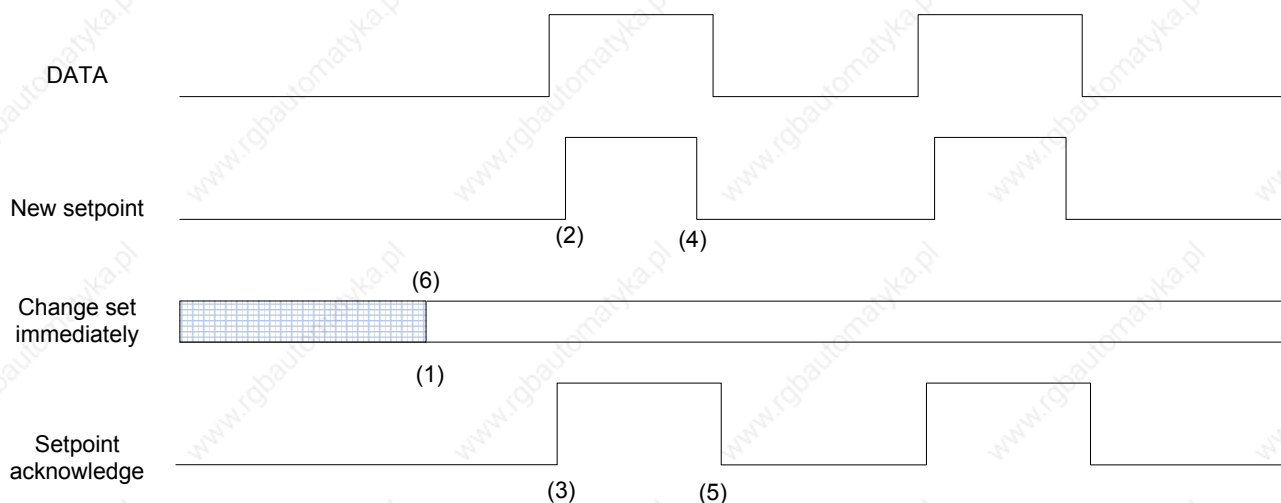
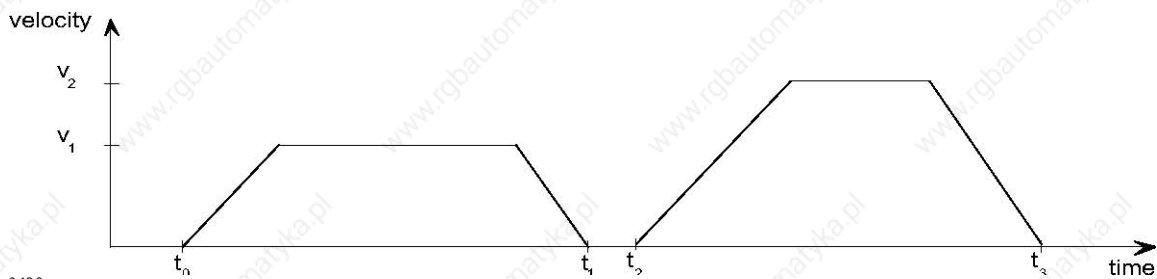

Figure 17: Set-point transmission from a host computer
Figure 18: Single set-point
Figure 17, Figure 18 and Figure 19 show the difference between the "set of set-points" mode and the "single set-point" mode. The initial status of the bit 'change set immediately' in the *controlword* determines which mode is used. To keep simple these examples, only trapezoidal moves are used.
If the bit 'change set immediately' is "0" (continuously drawn line in Figure 17) a single set-point is expected by the drive (1). After data is applied to the drive, a host signals that the data is valid by changing the bit 'new set-point' to "1" in the *controlword* (2). The drive responds with 'set-point acknowledge' set to "1" in the *statusword* (3) after it recognized and buffered the new valid data. Now the host may release 'new set-point' (4) and afterwards the drive signals with 'set-point acknowledge' equal "0" its ability to accept new data again (5). In Figure 18 this mechanism results in a velocity of zero after ramping down in order to reach a *target position* x_1 at t_1 . After signaling to the host, that the set-point is reached like described above, the next *target position* x_2 is processed at t_2 and reached at t_3 .
If the bit 'change set immediately' is "1" (dashed line in Figure 17) the new target position will be active immediately. In Figure 19 the drive receives the first *target position* at t_0 . At the time point t_1 the drive receives a second *target position*. The drive readapts the actual move to the new target position immediately.